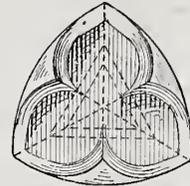
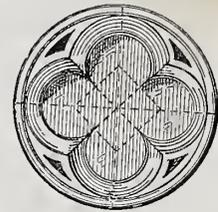
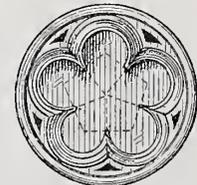

Fig. 6.—A Trefoil.
Fig. 7.—A Quatrefoil.
Fig. 8.—A Quinquefoil.
Novelties.—Fig. 7.—Myers All-China Water-Closet.
**FOLLS.**—The spaces between the cusps of featherings in gothic architecture. An ornament arranged with three spaces, as shown in Fig. 6, is known as a *trefoil*; with four (Fig. 7), as a *quatrefoil*; with five (Fig. 8), as a *quinquefoil*. When the ornament has more than five divisions it is known as a *multifoil*.